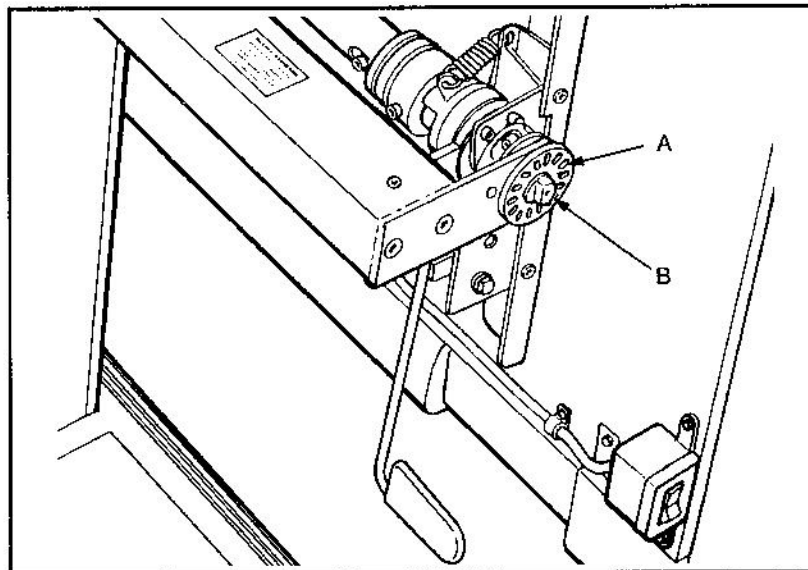

Fig 8. Adjusting the Tilt Mechanism
2. Remove the conical housings, from both ends of the tilt mechanism. See figure 8.